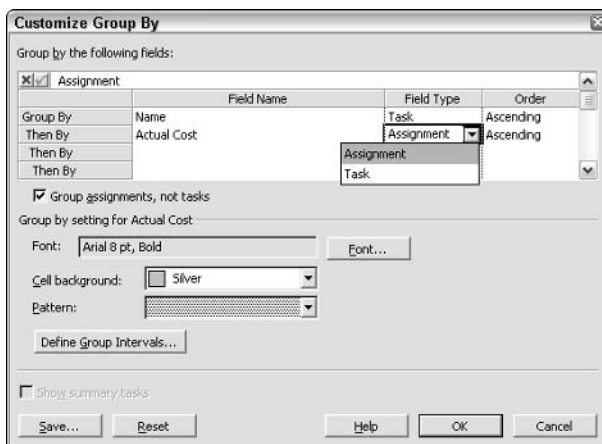

Figure 7-37: Use this dialog box to group by assignment fields.
2. Choose Project⇨Group by⇨Customize Group By. You see the Customize Group By dialog box, as shown in Figure 7-37.